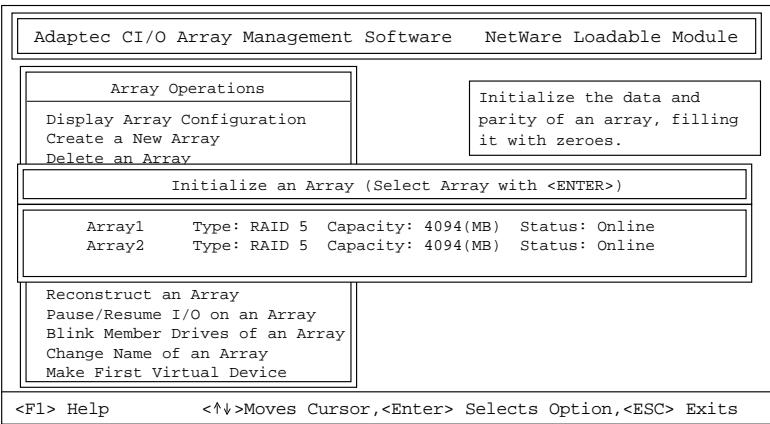

Figure 3-6. Initialize an Array Window
- 2 When the Array Operations menu appears, select **Initialize an Array**. The Initialize an Array window appears, similar to Figure 3-6.